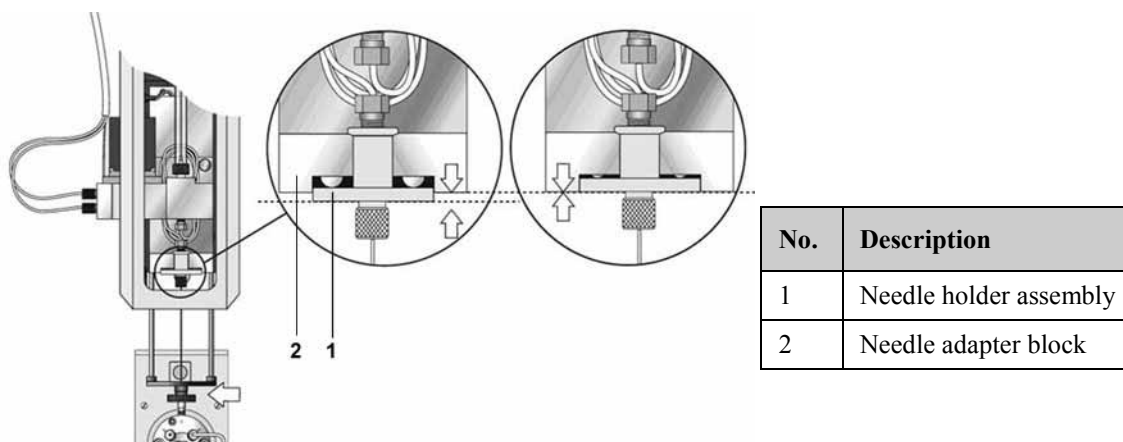

Fig. 44: Setting the needle penetration depth for the needle guide fitting (injection valve)
- Rotate the outer knob stepwise in the opposite direction until the bottom edge of the holder assembly is flush with the lower end of the needle adapter block, as shown in Fig. 44.